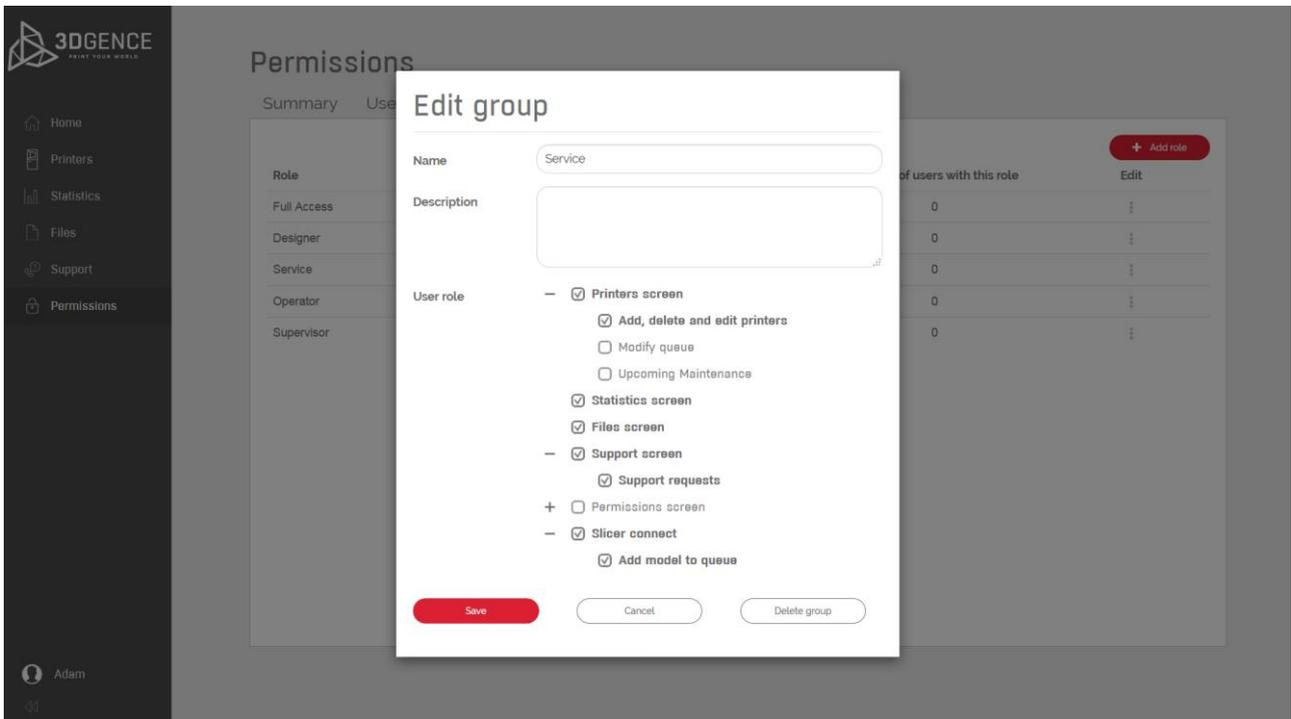

Fig. 24 Permission category – groups – edit group
6. Edit role / group (Fig. 24). When you select this option, you can change the group name, its description and permissions. From this level you can also delete the selected group.